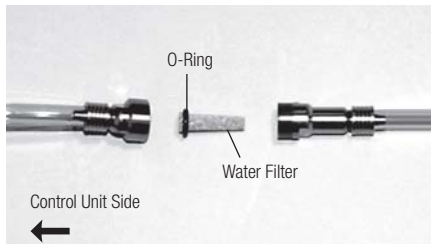

Fig.41
- 3) When the Water Filter case is separated, the Water Filter can be removed as shown in Fig. 41.